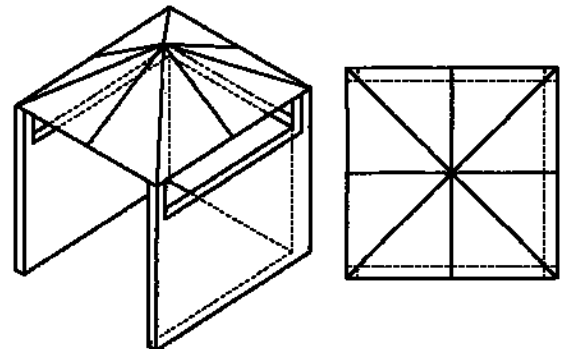

Figure 4 - Open side at least 25% of total wall area.
- At least 30% of the remaining wall area is open and unrestricted. See Figure 4 & 5.